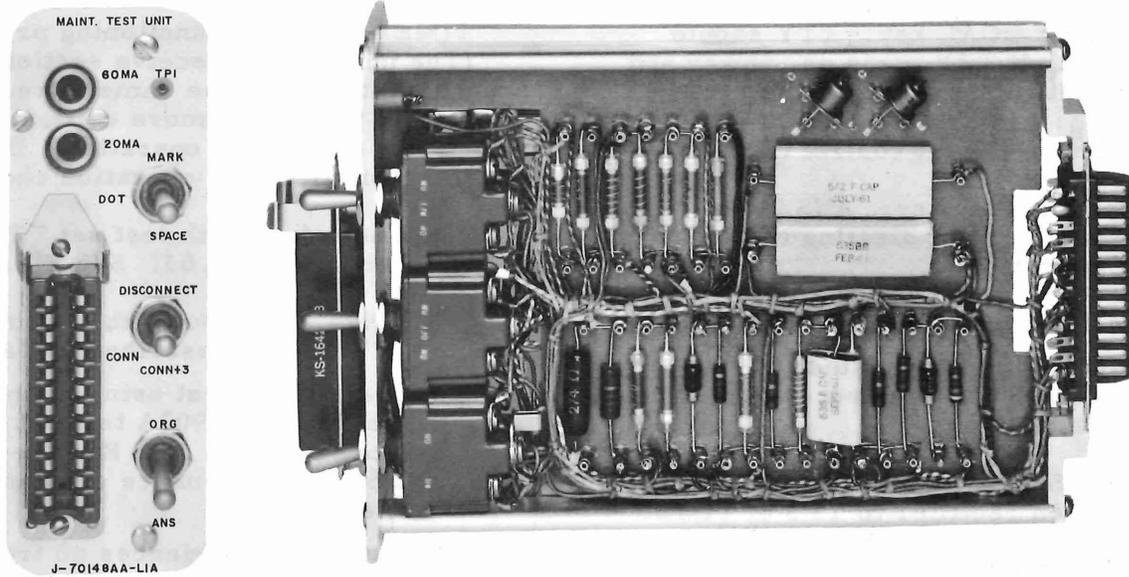

Fig. 4 - Maintenance Test Card, Front and Side View
c. Sensitivity test using maintenance test card or 907A test set as described in Table J or K. See Fig. 4 and 5 for maintenance card and 907A test set.